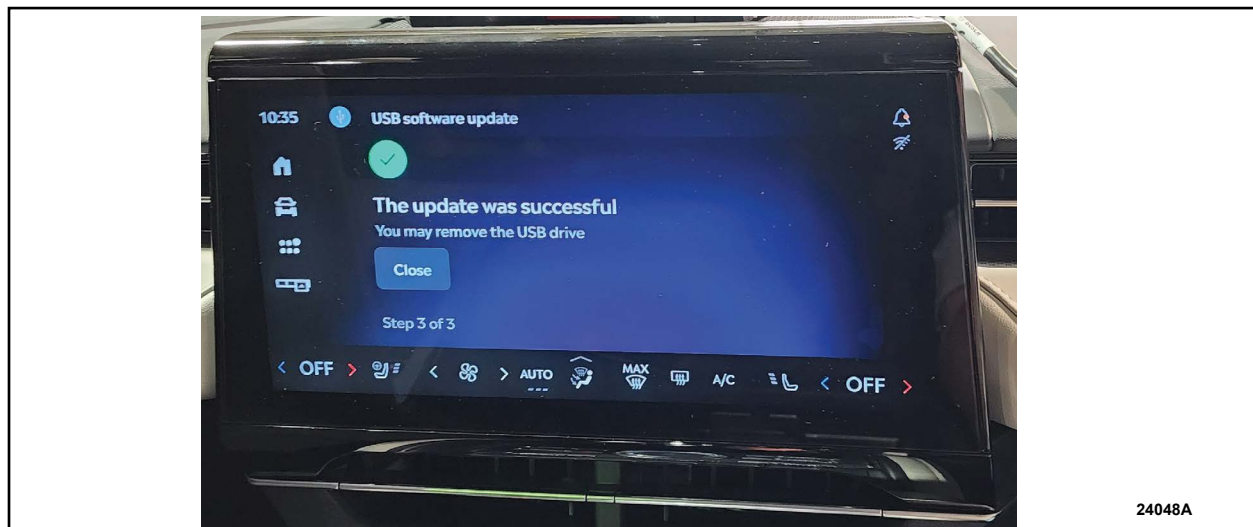

FIGURE 1
10. Update will be confirmed on center screen. See Figure 1.